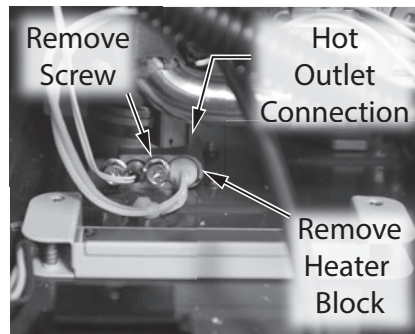

Figure 31 - Remove hot outlet connection heater block
- 14** Locate the screw securing the heater block inside the hot outlet connection as shown in Figure 31. Use a 12" Phillips screwdriver (magnetized) to remove screw. Place screw aside in a safe place for reinstallation. Remove heater block from hot outlet connection.